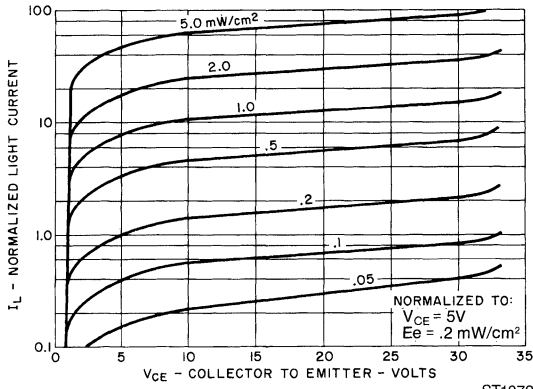
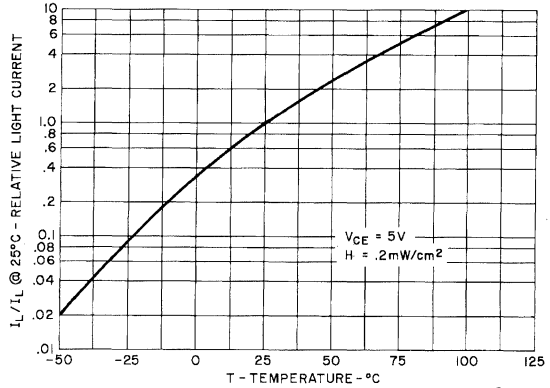

Fig. 1. Light Current vs. Collector to Emitter Voltage
Fig. 2. Relative Light Current vs. Ambient Temperature
8. Figure 1 and figure 2 use light source of tungsten lamp at 2870°K color temperature. A GaAs source of 0.05 mW/cm^2 is approximately equivalent to a tungsten source, at 2870°K , of 0.2 mW/cm^2 .